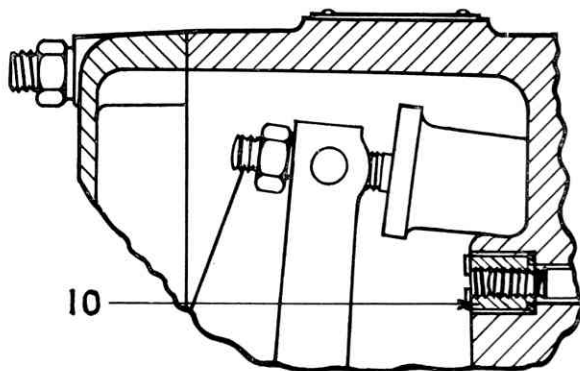

FIG. 93. THE INTERNAL SECURING NUT
2. Remove the six nuts (29) and withdraw housing cover (31).
3. Remove nut (6) and tab washer (5) from the spindle block.
4. Push spindle through spindle block and allow control rod connecting link (8) to swing down.
5. Push spindle in opposite direction and allow control lever (12) to swing clear.
6. Undo and remove internal nut (10), Fig. 93, remove outer idling plunger (28) and spring.
7. Unscrew seven nuts (20) and slowly remove governor assembly. Lay governor assembly on its back to ensure operating pistons do not fall out.
10. Place normal diffuser assembly (17) in position (gauze side uppermost).
11. Fit governor to sandwich plate on pump and secure with internal nut (10), Fig. 93.